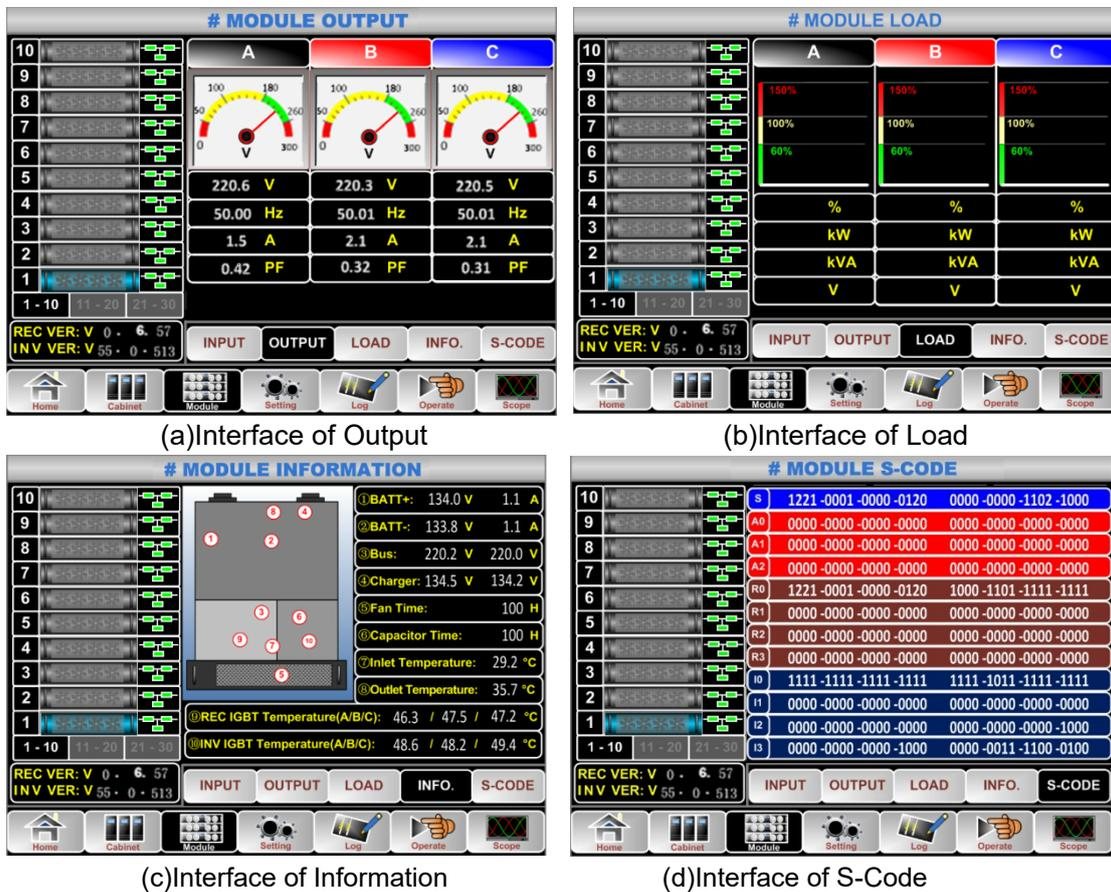

Fig.3-9 Module menu
- Users can enter the interface of each submenu by directly touching the icon .Each interface of the submenu is shown in Fig.3-9.